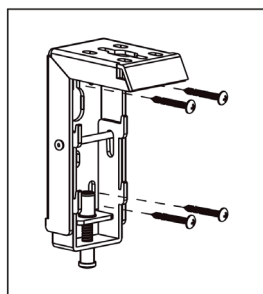

Fig. 2
1. **Mounting on supporting structures made of wood:** Screw the enclosed 5x40 mm screws through the holes in the brackets as shown in figs. 2 and 3.